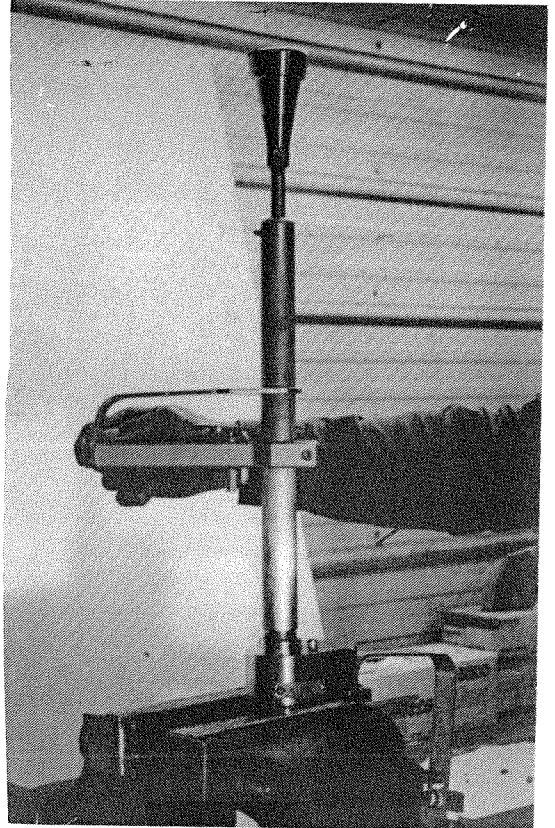

FIGURE 5-13
- B. STAND THE LANCE UPRIGHT AND CLAMP IN A VISE AS SHOWN IN FIGURE 5-13. USING THE SIDE HANDLE, ITEM (#27), UNSCREW THE DISCHARGE BARREL HOUSING, (#18).